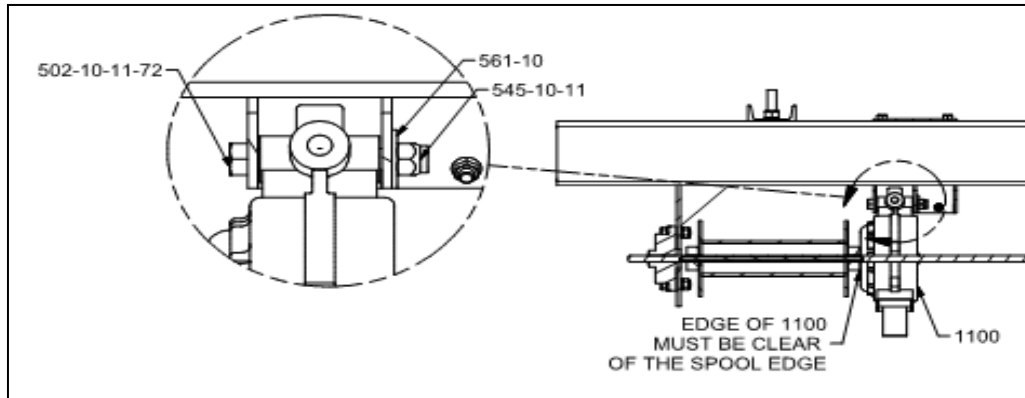

Figure 6
7. Mount 1100 safe stop units using items 6, 9, & 10 making sure to place the washer with the nylon lock nut as shown in figure 6. **NOTE: there may be components in the 1100 box that are not used. This is normal.**